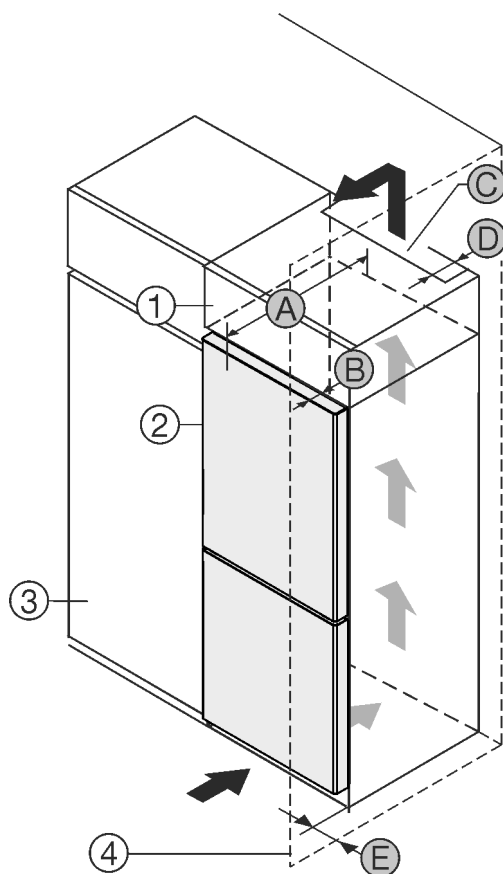

Fig. 1
You can place the appliance directly beside the kitchen cabinet Fig. 1 (3).
There must be a ventilation shaft at the depth Fig. 1 (D) of the back of the top cupboard over the entire width of the top cupboard.
The cross section of the ventilation gap Fig. 1 (C) must be maintained below the ceiling.
If the appliance is set up with the hinges next to a wall Fig. 1 (4), the distance between the appliance and the wall must be at least 13 mm (1/2 in) .
In order to be able to fully open the door, the appliance must protrude by the depth of the door Fig. 1 (B) from the front of the kitchen cabinet. Regardless of the depth of the kitchen cabinets Fig. 1 (3) and use of wall spaces, the appliance can protrude further.